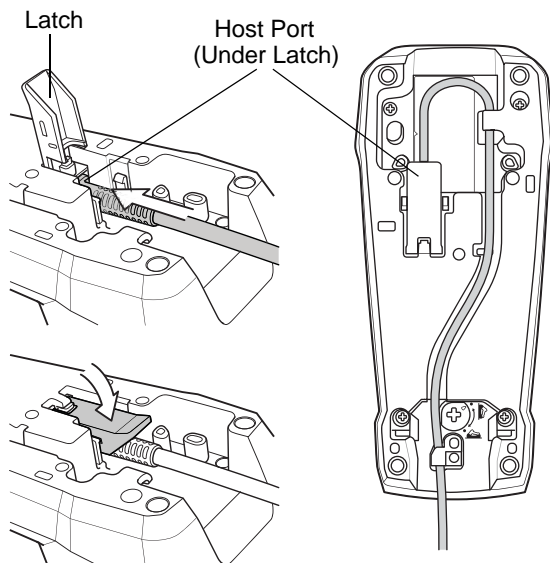

Figure 1-6 Connecting the Cables to the Cradle
3. Lift the latch and connect the interface cable into the cradle's host port and then close the latch. See Figure 1-6.